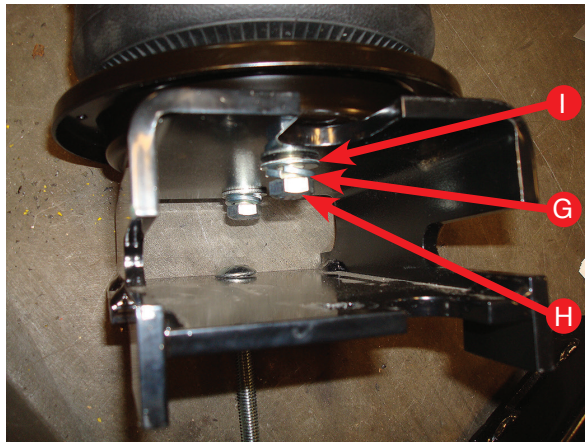

fig. 15
- Attach the lower bracket (B) to the air spring assemblies with the 3/8-16 X 7/8" hex cap screws (G), 3/8" lock washers (H) and 3/8" flat washer (I) and tighten to no more than 20 ft-lbs. (fig. 15).